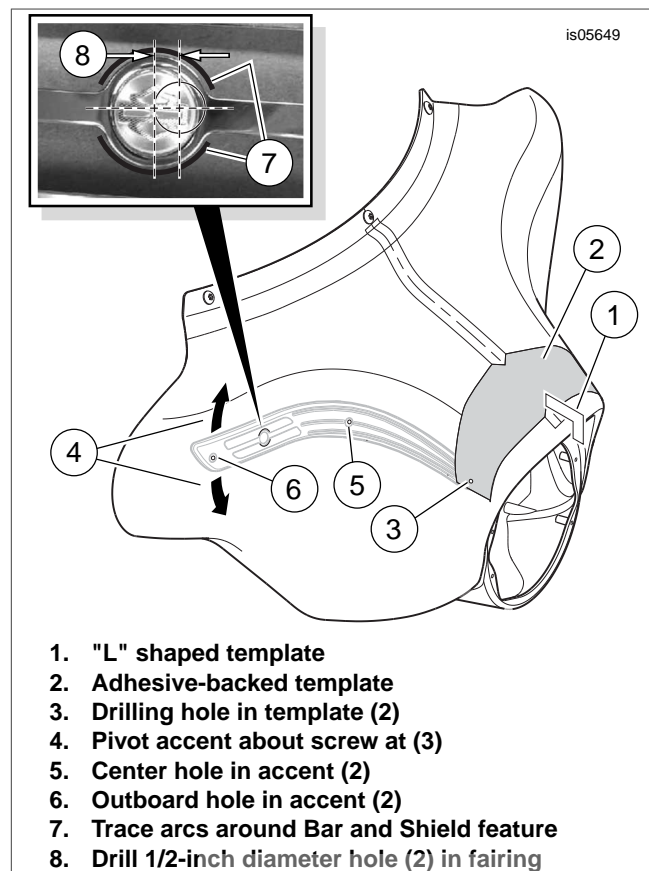

Figure 2. Mark and Drill Fairing Trim Mounting Holes
1. See Figure 2. Obtain the "L" shaped template (1) from the kit.
- b. Adhere the gasket to the accent by sequentially removing the release liner from the adhesive tape patches (A) located on the inside surface of the gasket.
11. Insert a #8-32 flat head screw (9) into the hole on the narrow end of the accent and gasket assembly and then through the right-side hole in the fairing.
12. Install a flat washer (10) and lock nut (11) onto the screw threads. Gently snug the accent assembly to the fairing, but do not tighten.
13. See Figure 2. Pivot the accent assembly (4) about the screw until it seats itself along the fairing. Make sure that gaps between the fairing and the gasket are minimized.
18. See the inset in Figure 2. Trace (7) around the arcs created by the Bar and Shield feature on both accents.